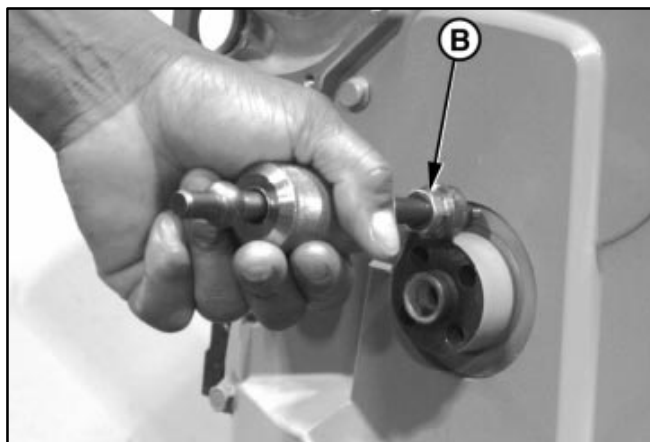

FIGURE 7-30. REMOVING OIL SEAL
3. Remove the oil seal using seal remover tool JD719 (Figure 7-30).